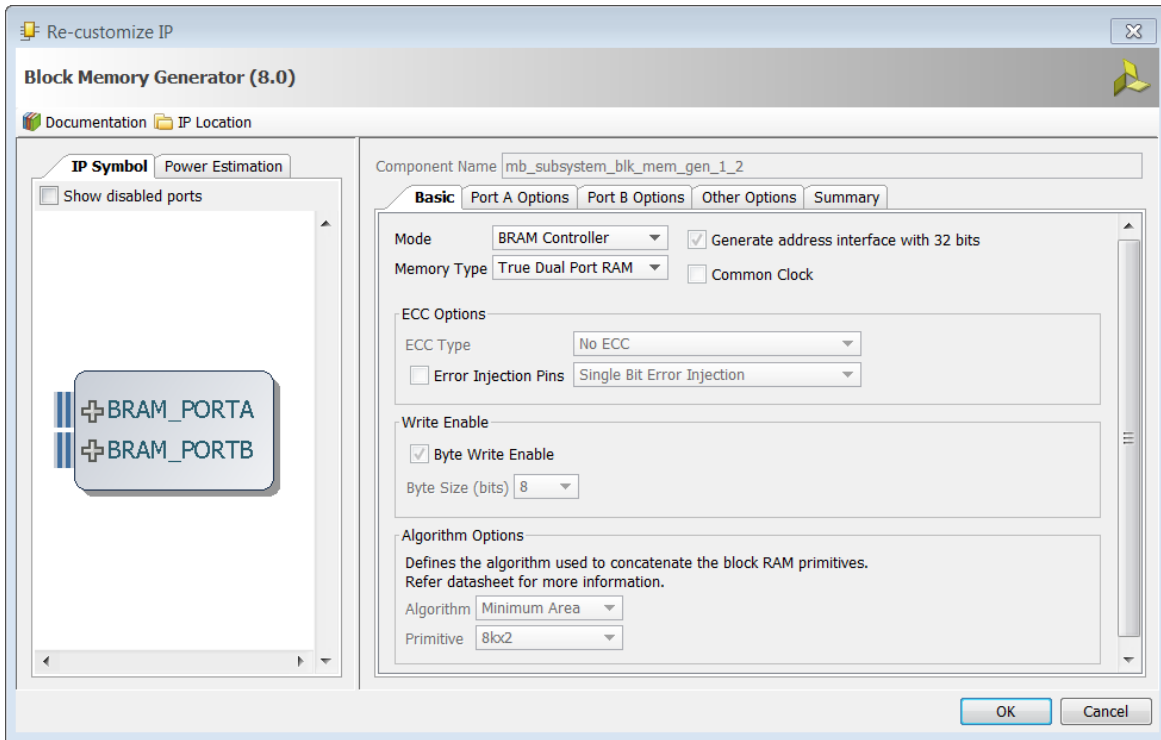

Figure 116: Block Memory Generator
4. Double-click the Block Memory Generator (Figure 116).